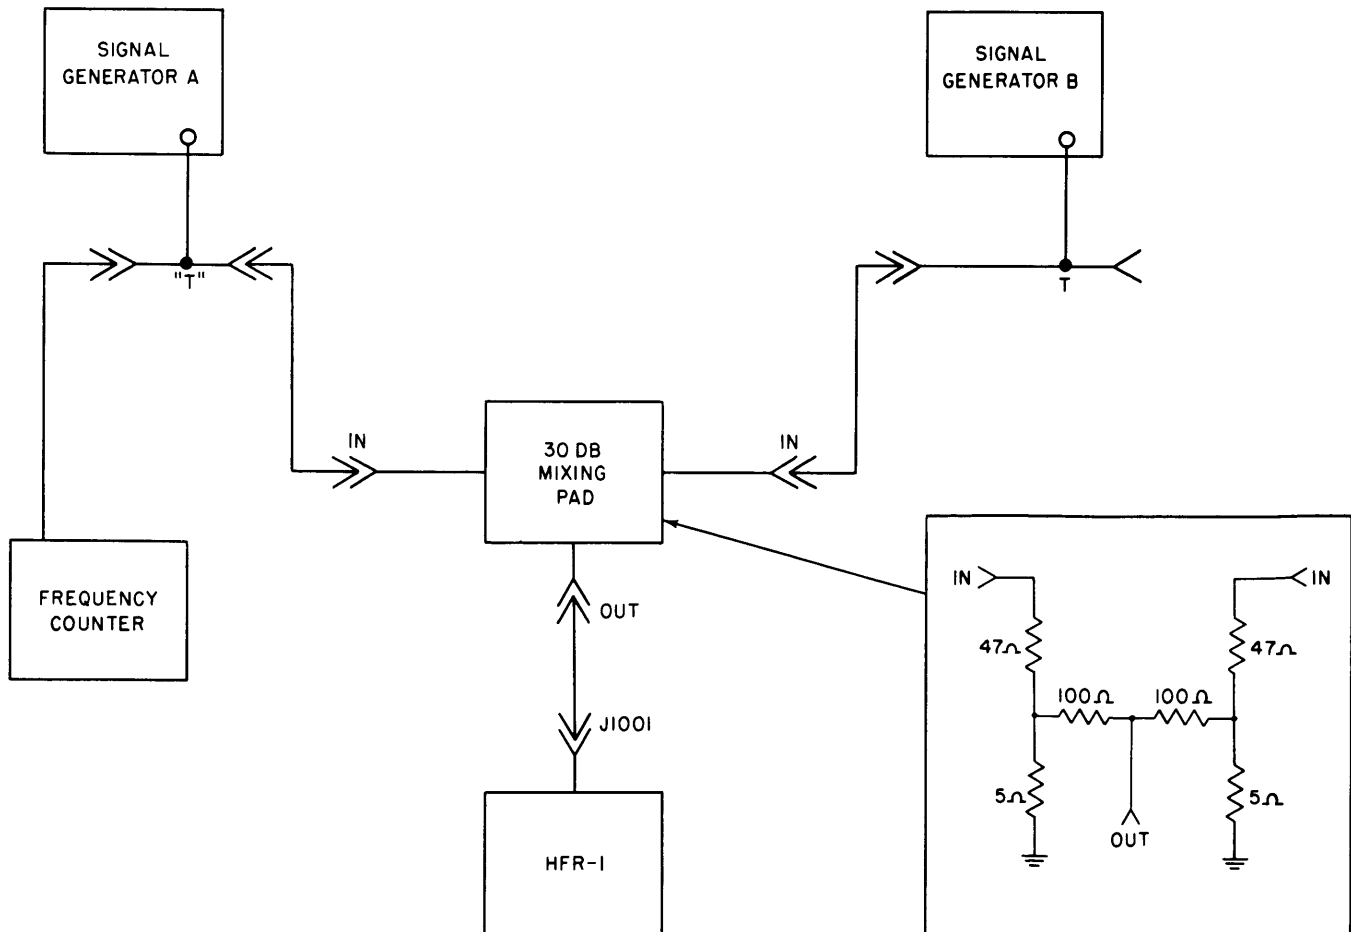

Figure 2-6. Connection Diagram for Two Tone Test, Rcvr No. 1, DDR-5A
(1) Ensure that preliminary procedures outlined in paragraph 2-4,b have been completed.
(2) Set up test equipment as shown in connection diagram figure 2-6.
(2) Ensure that signal generators and frequency counter are connected as shown in figure 2-6. Ensure that steps (3) through (10) of the Rcvr No. 1 Two Tone Test (paragraph 2-4,n) have been completed.
(3) Set NOTCH control (86) of HNF-1 at ON.
(4) Observe spectrum analyzer while simultaneously rotating NOTCH ADJUST control (85) of HNF-1 to eliminate each tone in succession.
(5) Remove all test equipment, and restore HNF-1 controls to normal.